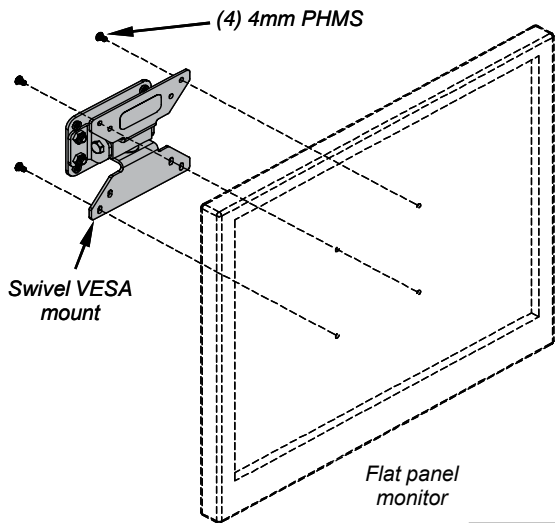

Figure 3A
- B. Attach the Swivel VESA mount to your flat panel monitor with (4) 4mm PHMS screws. **Figure 3A.**